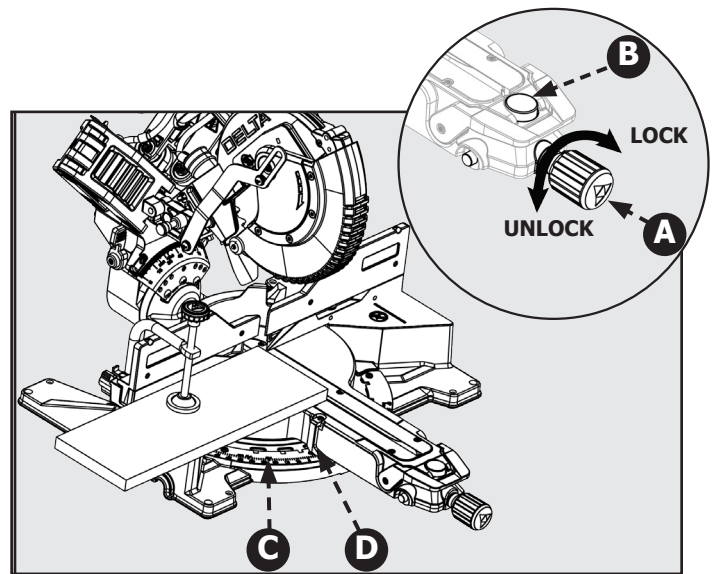

Figure 18
1. See Figure 18
3. Loosen the miter lock knob (A), use your thumb to push in the miter detent lock button (B), and set the miter arm angle to 0 degrees. Use the miter scale (C) and indicator (D) to locate the 0 degree miter position.
4. Release the miter detent button (B) and tighten the miter lock knob (A). Check that saw head is securely locked into position.